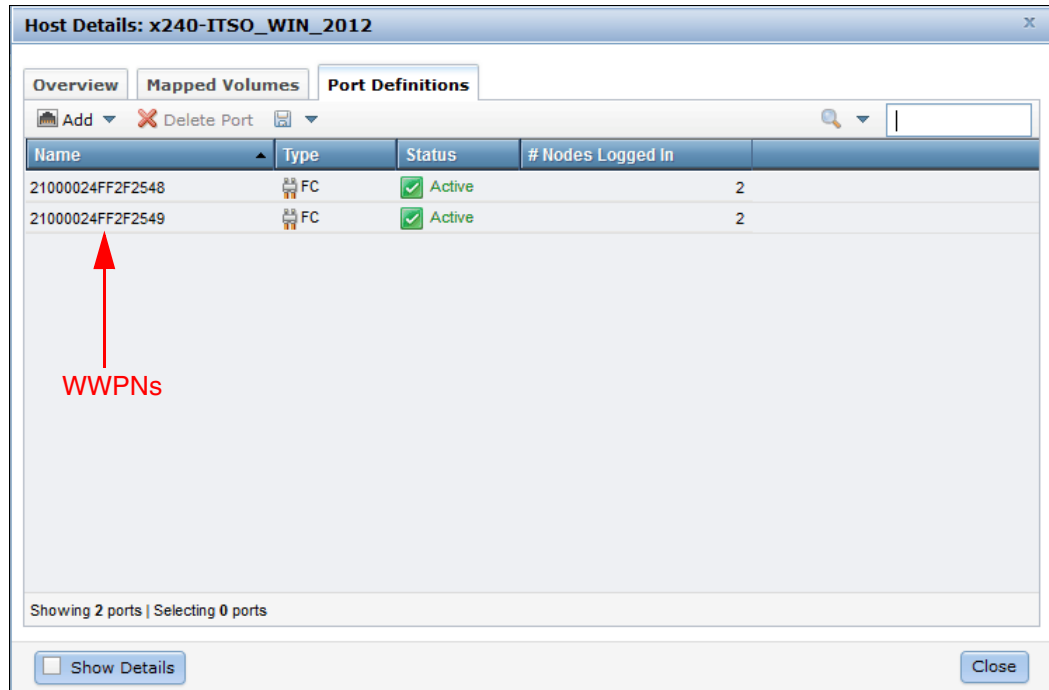

Figure 12-5 Check WWPN for WIN 2012 Host definition
3. If required, check the port definition on the host defined on IBM Flex System V7000 Storage Node. This is a configuration check using the WWPN as a common reference. Figure 12-5 shows the WWPNs taken from the host properties **Port Definitions** tab. The WWPNs can be compared with Example 12-1 to verify the correct host definition. This is a useful step when defining multiple hosts to IBM Flex System V7000 Storage Node.